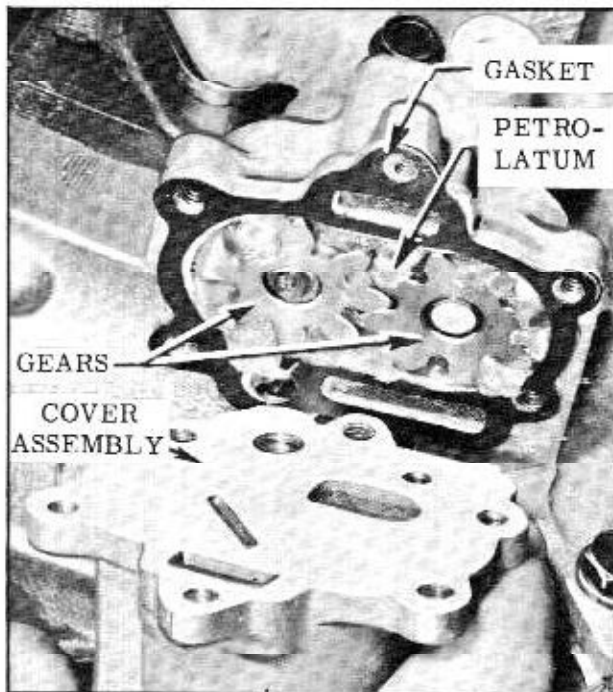

Fig. 8-37 Packing Oil Pump
7. Fill gear pocket with petrolatum and force into every cavity of the gear pocket. Also between teeth of gears. (Fig. 8-37)